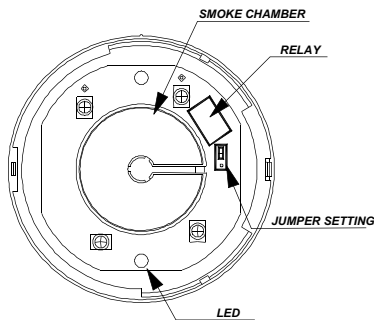

FIG. 3 Schematic of detector structure
- To adjust the normal condition of the relay to "normally closed" (NC), insert a screwdriver into the rectangular hole located on the side between the front cover and base and rotate to remove the front cover.
- Refer to Fig. 3. There is a jumper head next to the relay on the PCB. Remove the jumper head and reinsert it in the NC position.